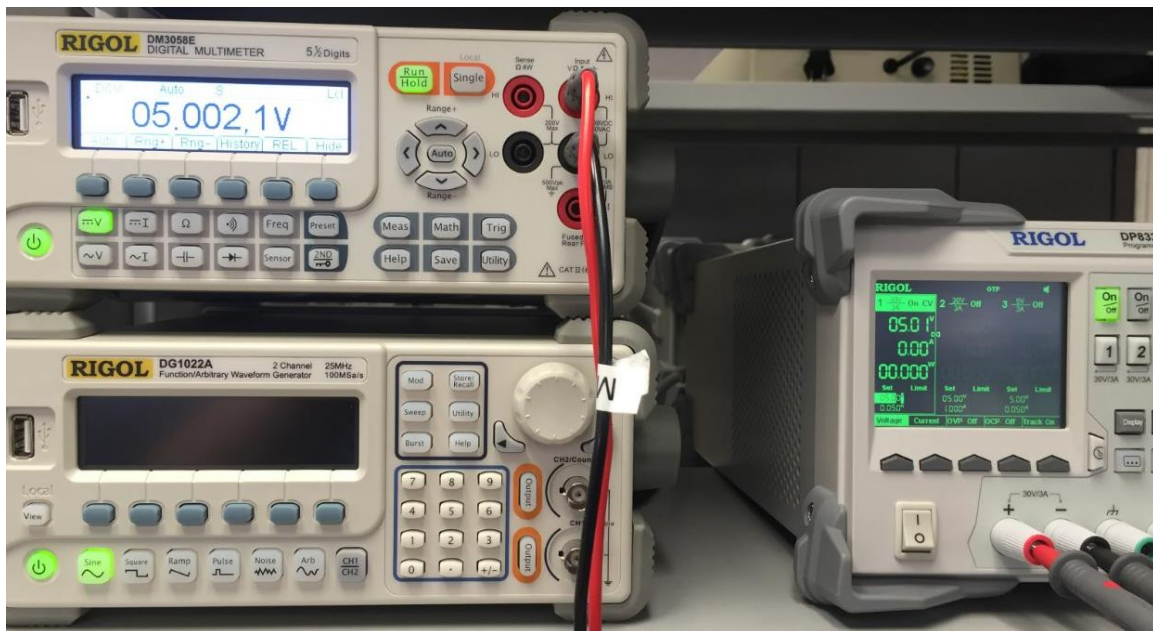

Figure 19. Example setup for verifying the output voltage of the DC power supply.
The following is a step-by-step example for measuring the DC voltage generated by the DC power supply (refer to the setup in Figure 19):
- Connect the test leads as shown in Figure 19.